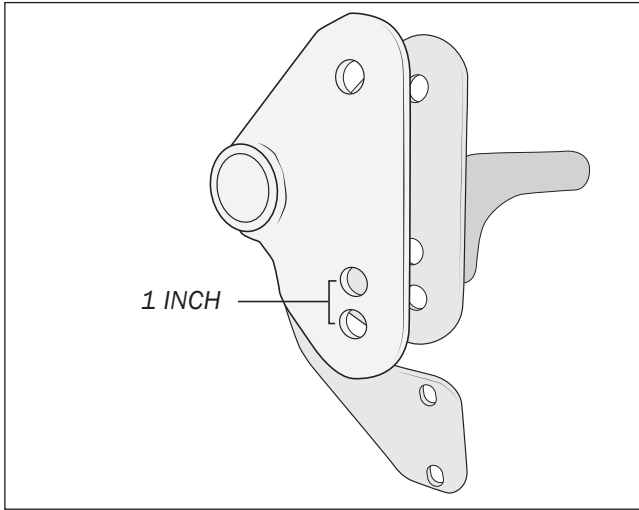

Figure 5
- a. **POWER WAGON ONLY** – Drill out an additional hole for the track bar 1" higher than existing (fig. 5). Treat for corrosion.